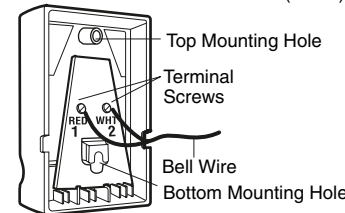

Figure 4 REMOVE COVER
- Remove white cover by gently prying at slot in the top of the cover with a small flat head screwdriver (Figure 4). Fasten with 6ABx1-1/4" self-tapping screws (drywall installation) or 6-32x1" machine screws (into gang box) as follows: